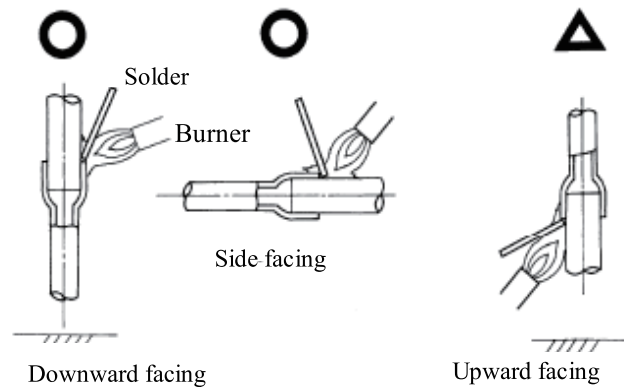

Figure 3-1-3
- Generally, the pipe shall be welded with the weld junction upward or horizontal. Avoid welding with the pipe opening downward. (Downward welding is easy to cause defects, which may affect the weld quality or even cause leakage, as show in Fig. 3-1-3).